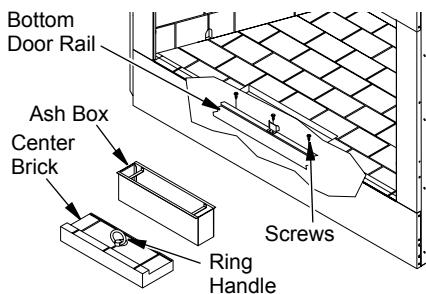

Figure 21 - Installing Bottom Door Rail
3. Remove center brick by pulling ring handle (see Figure 21).
5. Remove three screws located at front of firebox (see Figure 21).